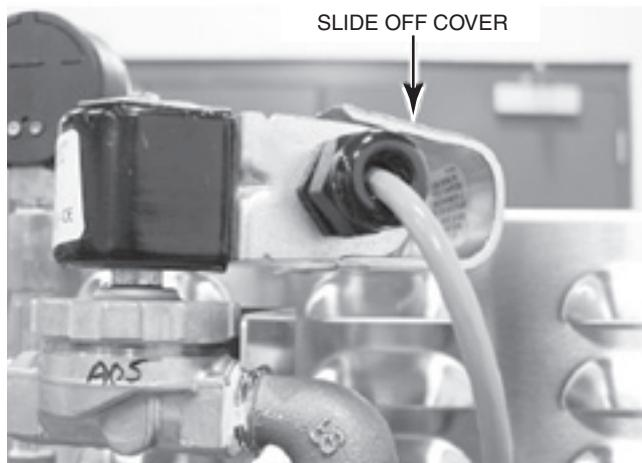

Fig. 13
3. Disconnect one electrical lead at hot fill solenoid valve coil located at the top rear of unit by sliding the coil cover off and disconnecting one of the coil wires (Figs. 13 & 14).